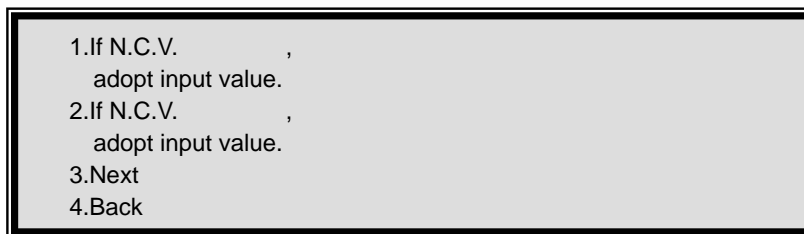

Fig. 9: Limitation of Negative-Control Values
4. When the cursor stays on **Next**, you can press **Enter** key or directly press numeric key **2** on the panel to go to the sub menu (Fig. 9).